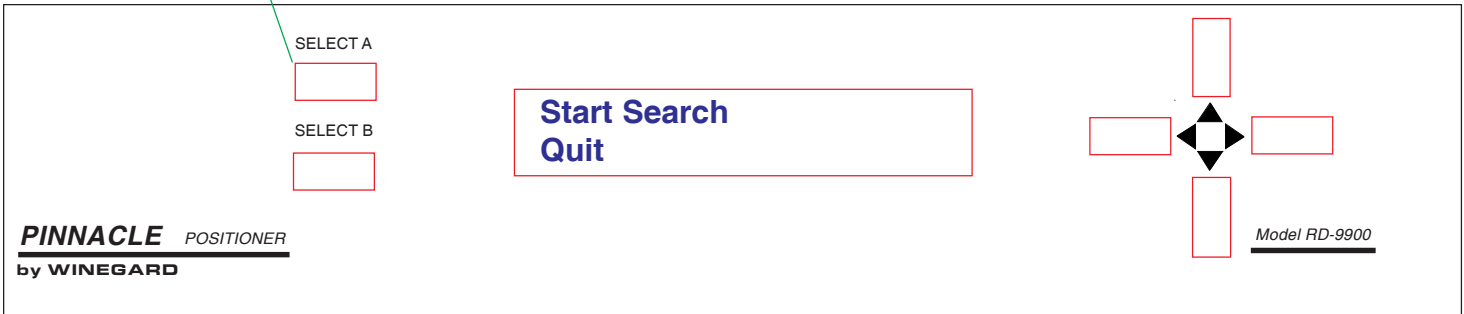

Figure 21
11. Press **[SELECT A] Start Search**, Figure 21. This will begin the search for the satellite. If you entered the wrong latitude/longitude, press **[SELECT B] Quit**, this will return you to step 3. Repeat 3 through 10 to enter the correct latitude and longitude.